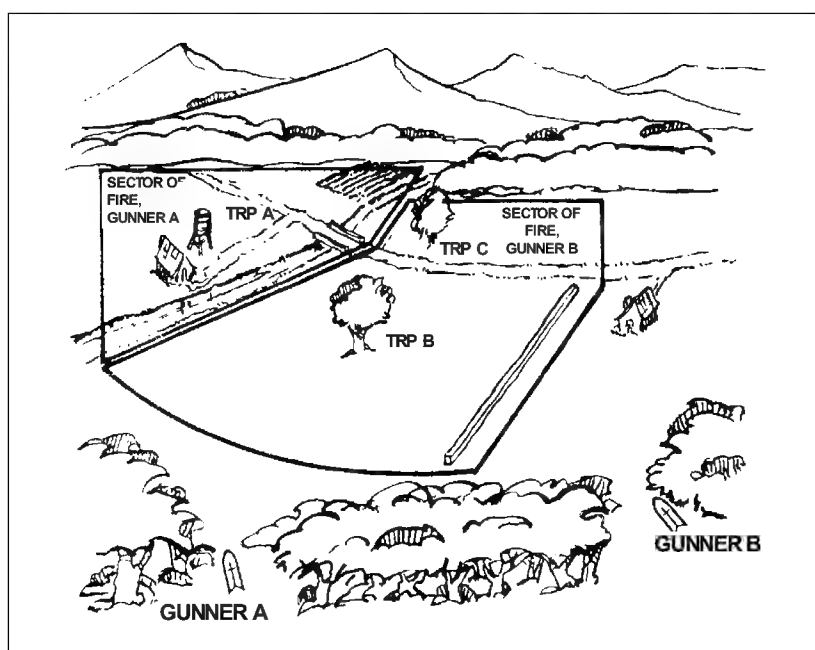

Figure 8-21. Sector of fire.
b. **Sector of Fire.** A sector of fire refers to an area limited by boundaries and assigned to a unit or weapon to cover by fire (Figure 8-21). The gunner or unit assigned a sector of fire may fire only within that sector. Leaders make sure that sectors overlap in order to cover all areas and so that the Dragon gunners do not hesitate when enemy vehicles come into range.